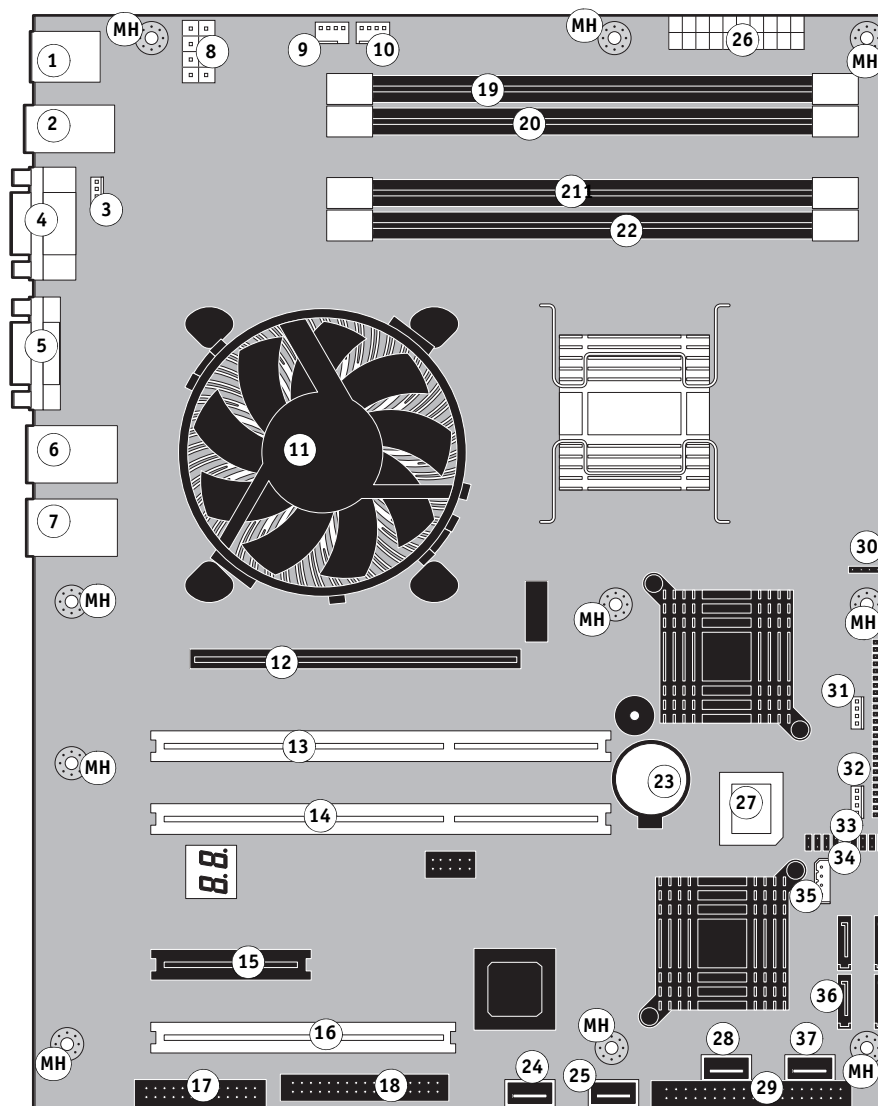

FIGURE 19: Diagram of the E-8100 motherboard
The UIB cable is routed from a connector on the back of the User Interface Board to connector J31 on the motherboard (see Figure 19 on page 59).
For motherboard connector locations, see Figure 19 on page 59.
2. Remove the 10 mounting screws securing the motherboard to the chassis (for screw locations, see Figure 19 on page 59).
4. Replace the video board in motherboard connector J42 (see Figure 19 on page 59).